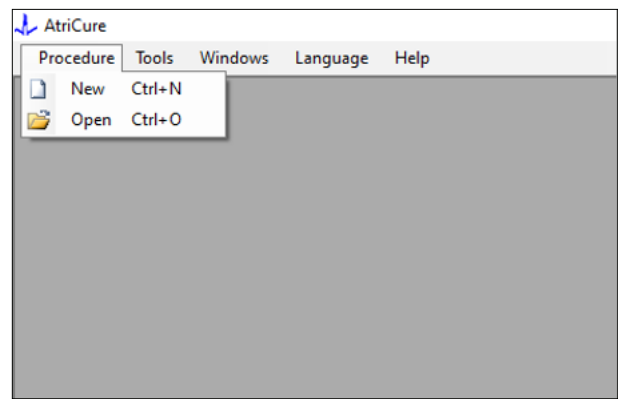
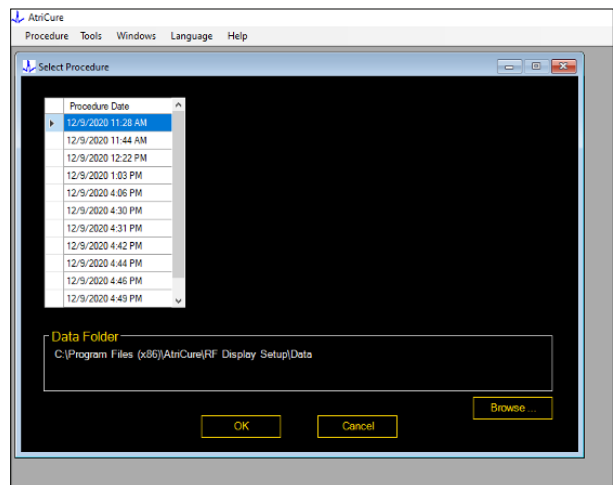

Figure 6: Option for opening specific ablation for review
Figure 7: Selecting previously conducted ablation for review (Image for reference only)
1. Selecting Procedure > Open (refer **Figure 6** and **Figure 7**):